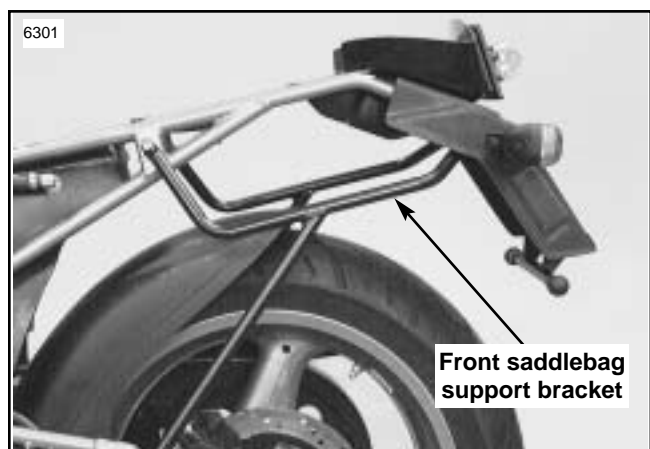

Figure 2. Saddlebag Supports
2. See Figure 2. Position the front saddlebag support bracket, open to the front, under the tail section. Place the rear of the bracket on the frame ledge under the tail section. Rotate the bracket up at the front, slightly spreading the front mounts of the bracket to clear the frame rails. Set into position by aligning the front bracket spools with the frame mounting. The feet, at the bottom of the bracket go to the rear of the passenger footpeg mounting tabs.